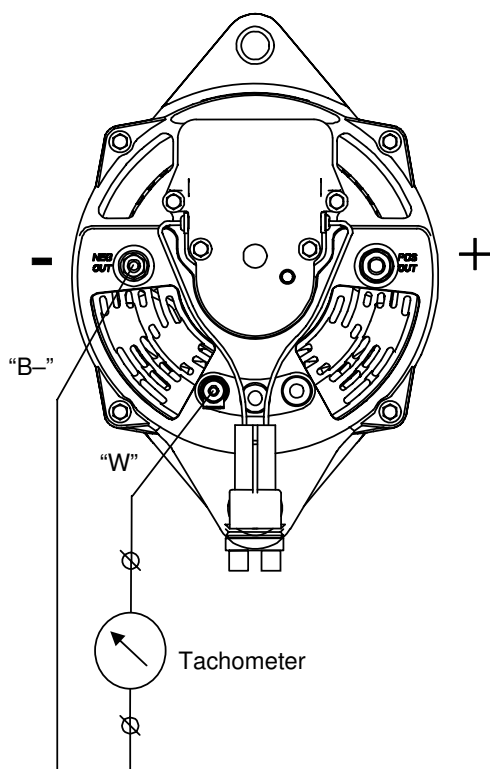

Figure 9: Connection of a tachometer (position of the terminals may differ; see APPENDIX figures A-6 till A-9)
- 7 See reference ⑦. Attach the temperature sensor to the battery and connect the RJ12 connector to the Alpha Pro II regulator as indicated.
If a tachometer is used, it should be connected between the W terminal of the alternator (see reference ⑧) and the B- terminal of the alternator (or the NEG pole of the battery). See figure 9.